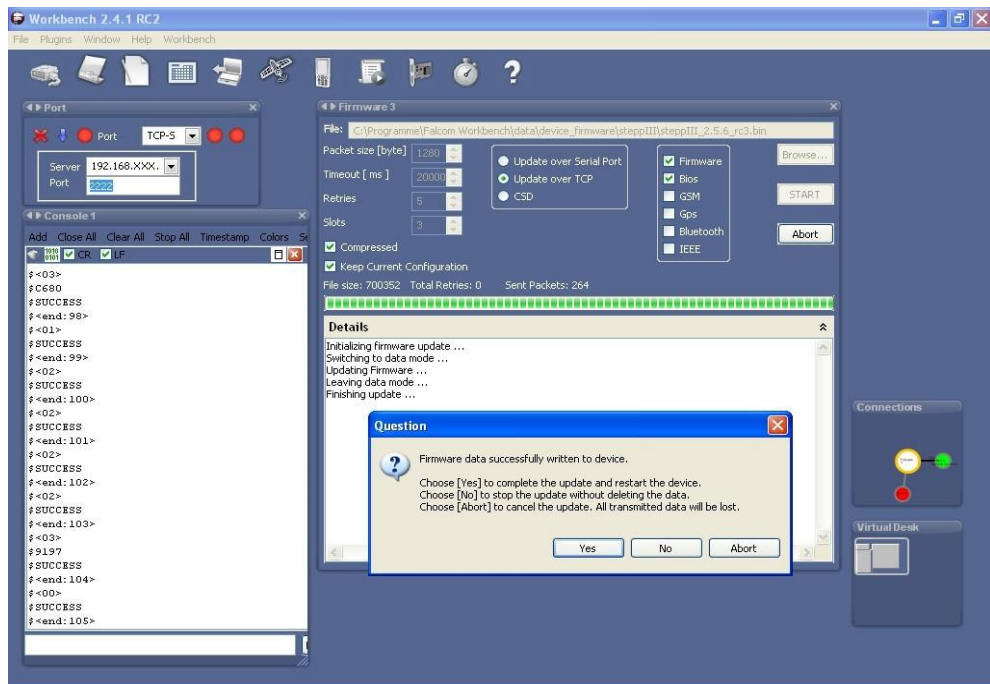

Figure 6: Update process completed
10. When the upgrade of the firmware has been done, a message box will appear. Press “Yes” to complete the update and restart your upgraded device (see Fig. 6).